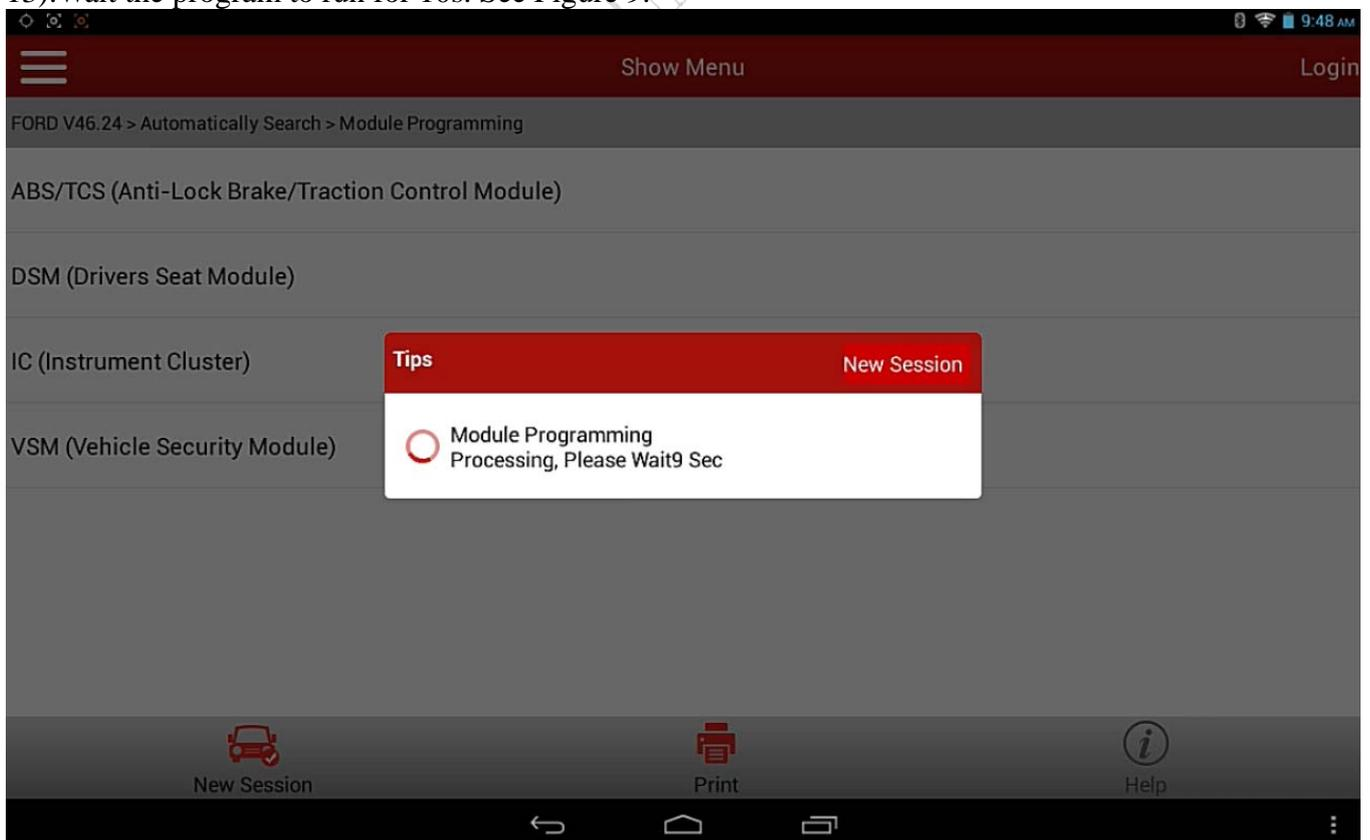

Figure 9
13). Wait the program to run for 10s. See Figure 9.